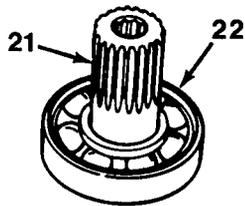

Figure 11-8
35. Using a press, install outside bearing (22) on ground driven pump shaft (21, Figure 11-8).